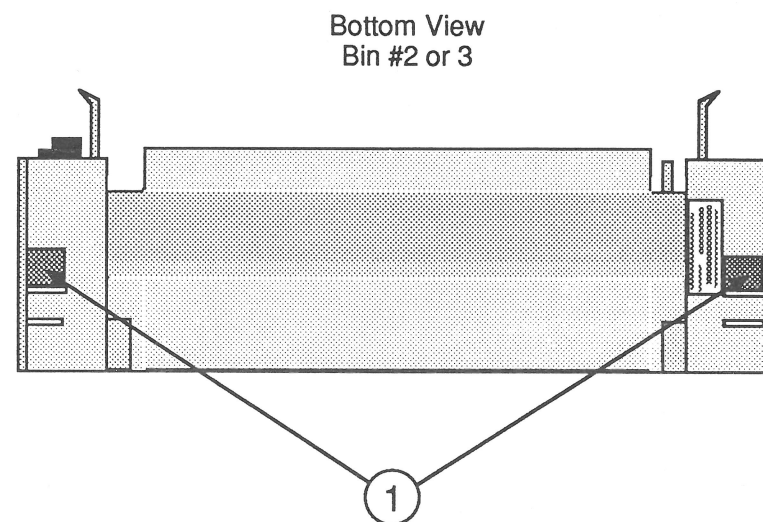

FIGURE 12
1. Find the correct locations (Figure 12, #1) for the rubber bumpers.
4. Press the bumper pads on the expansion bins in the exact locations as indicated in Figure 12.